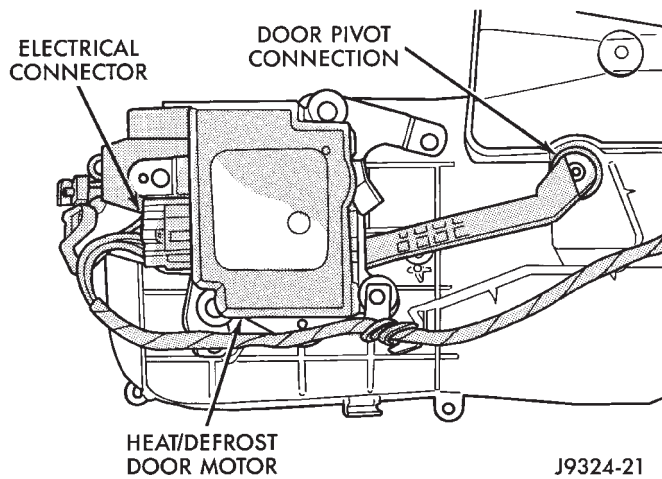

Fig. 23 Heat/Defrost Door Motor
- (1) Disconnect and isolate the battery negative cable.
- (2) Remove the three screws that secure the upper and lower steering column shrouds to the steering column and remove the shrouds.
- (3) Remove the cluster bezel, instrument panel center bezel, instrument panel top cover, steering column opening cover, knee blocker, left instrument panel end cap and left lower instrument panel trim from the instrument panel. Refer to Group 8E - Instrument Panel and Gauges for the procedures.
- (4) Remove the two bolts that secure the center instrument panel support bracket to the left side of the floor pan transmission tunnel.
- (5) Remove the two bolts that secure the center instrument panel support bracket to the instrument panel.
- (6) Remove the center instrument panel support bracket from the vehicle.
- (7) Unplug the wire harness connector from the motor (Fig. 23).
- (8) Remove the three screws that secure the motor to the bottom of the heater-A/C housing.
- (9) Remove the motor from the housing.